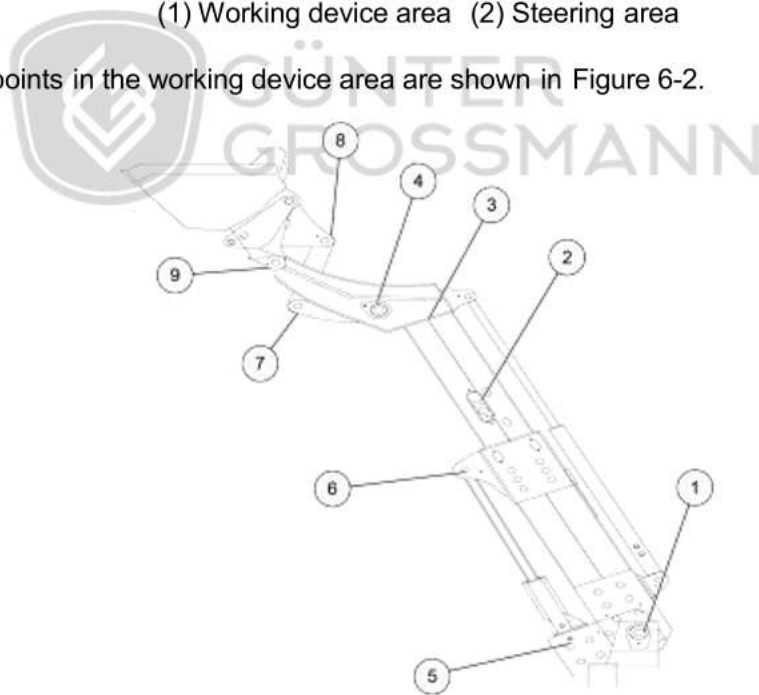

Figure 6-2 Working device area
The lubrication points in the working device area are shown in Figure 6-2.
Step 2: Add grease with a grease gun, as shown in Figure 6-4. The specific location and quantity of lubrication points are shown in Figure 6-2, 6-3 and Table 6-3;